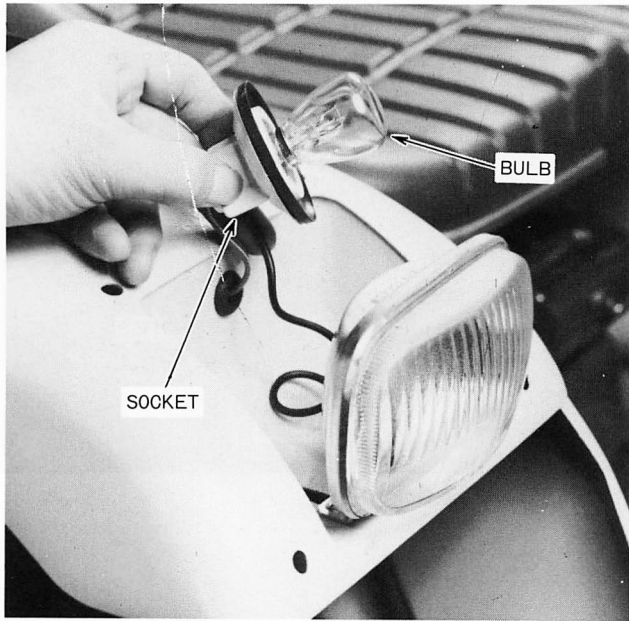

Figure 60 – Headlamp Socket
2. Turn the socket to align the index tab and remove the socket from the housing, Figure 60.